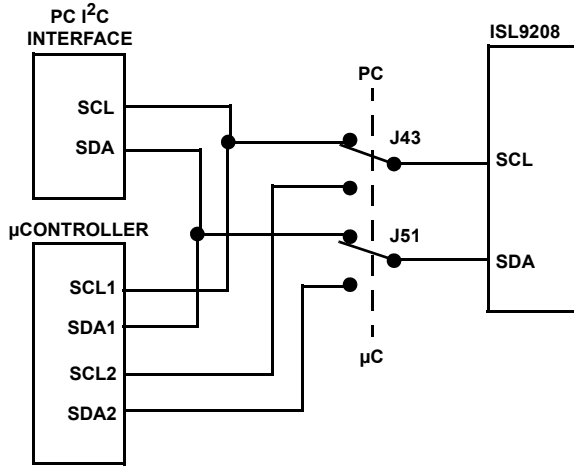

FIGURE 6. I2C JUMPERS: PC OR μC CONNECTION TO THE ISL9208
- For this test, make sure the SCL and SDA jumpers are set to the PC position. In this case, the PC has full control of the board and the microcontroller function is disabled. (See Figure 6). Except for the ISL9208 automatic response to overcurrent and over-temperature, all other actions of the board are manual and controlled through the GUI.